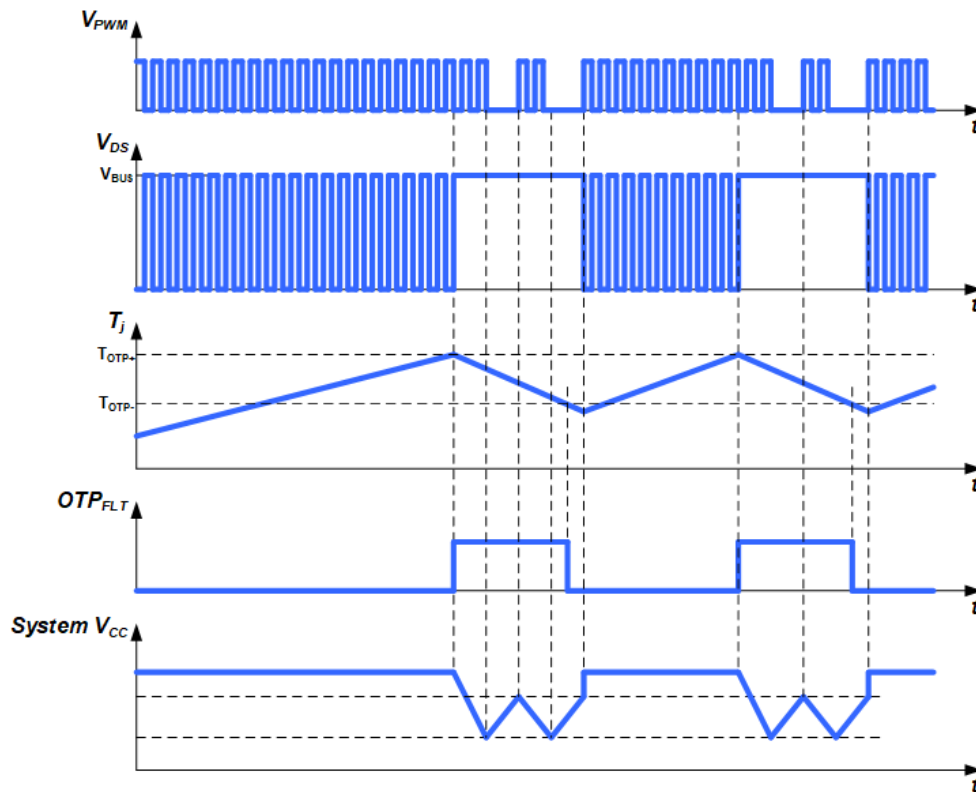
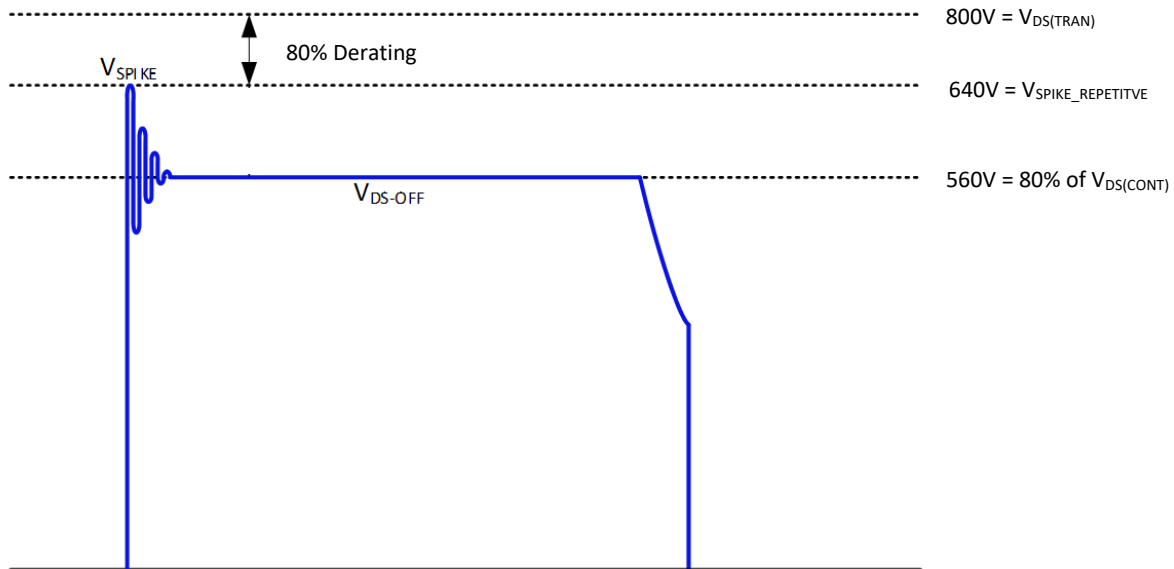

Figure 25. OTP threshold timing diagram
Figure 26. QR flyback drain-to-source voltage stress diagram
This GaN Power IC includes over-temperature detection and protection (OTP) circuitry to protect the IC against excessively high junction temperatures (T_J). High junction temperatures can occur due to overload, high ambient temperatures, and/or poor thermal management. Should T_J exceed the internal T_{OTP+} threshold (165°C, typical) then the IC will latch off safely. When T_J decreases again and falls below the internal T_{OTP-} threshold (95°C, typical), then the OTP latch will be reset. Until then, internal OTP latch guaranteed to remain in the correct state while V_{CC} is greater than 5V. During an OTP event, this GaN IC will latch off and the system V_{CC} supply voltage will decrease due to the loss of the aux winding supply. The system V_{CC} will fall below the lower UV- threshold of the controller and the high-voltage start-up circuit will turn-on and V_{CC} will increase again (Figure 25). V_{CC} will increase above the rising UV+ threshold and the controller turn on again and deliver PWM pulses again.
GaN Power ICs have been designed and tested to provide significant design margin to handle transient and continuous voltage conditions that are commonly seen in single-ended topologies, such as quasi-resonant (QR) flyback applications. The different voltage levels and recommended margins in a typical QR flyback can be analyzed using Figure 26. When the device is switched off, the energy stored in the transformer leakage inductance will cause V_{DS} to overshoot to the level of V_{SPIKE} . The clamp circuit should be designed to control the magnitude of V_{SPIKE} . After dissipation of the leakage energy, the device V_{DS} will settle to the level of the bus voltage plus the reflected output voltage which is defined in Figure 25 as V_{DS-OFF} .